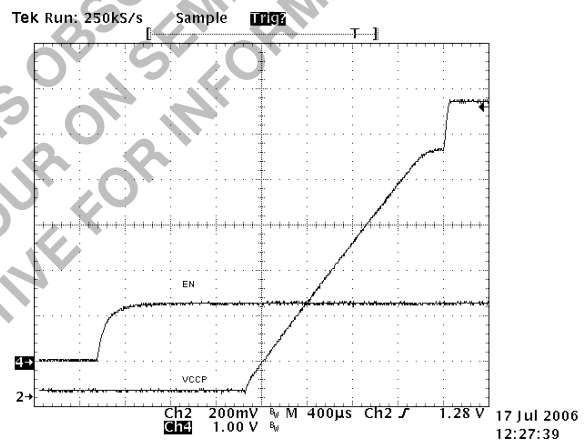

Figure 15. VR11 Startup
The controller supports two different startup routines. A legacy VR10 ramp to the initial VID code, or a VR11 Ramp to the 1.1 V VID code, with a pause to capture the VID code then resume ramping to target value based on an internal slew rate limit. See Figures 15 and 16. The controller is designed to regulate to the voltage on the SS pin until it reaches the internal DAC voltage. The soft-start cap sets the initial ramp rate using a typical 5.0 µA current. The typical value to use for the soft-start cap (SS), is typically set to 0.01 µF. This results in a ramp time to 1:1 V of 2.2 ms based on equation 1.